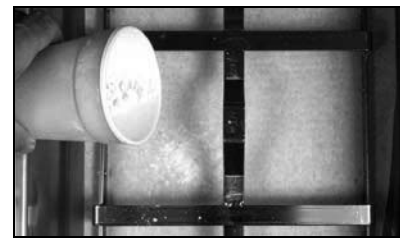

Figure 4
5. When the hold-down ring is in position, if using filter paper, sprinkle one packet of filter powder evenly over the paper. (See Figure 4)